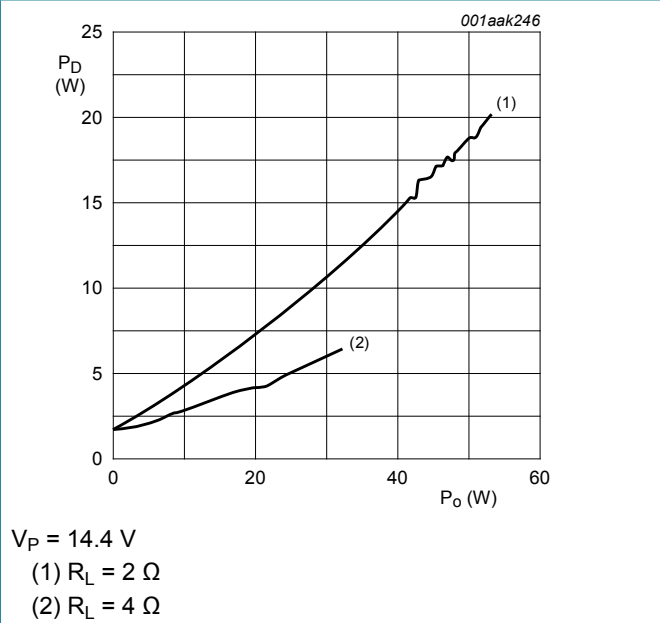
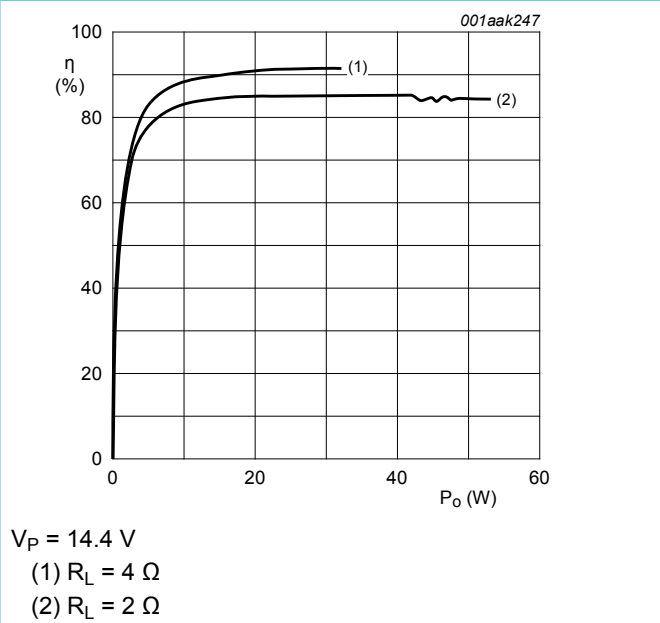

Figure 42. Power dissipation as a function of total output power with both channels driven; $V_P = 14.4\text{ V}$
Figure 43. Efficiency as a function of total output power with both channels driven; $V_P = 14.4\text{ V}$
P_{max} is determined by the efficiency (η) of the TDF8599B. The efficiency measured as a function of output power is given in Figure 43. The power dissipation can be derived as a function of output power (see Figure 42).
- $P_{max} = 5.8 W$ (from Figure 42)